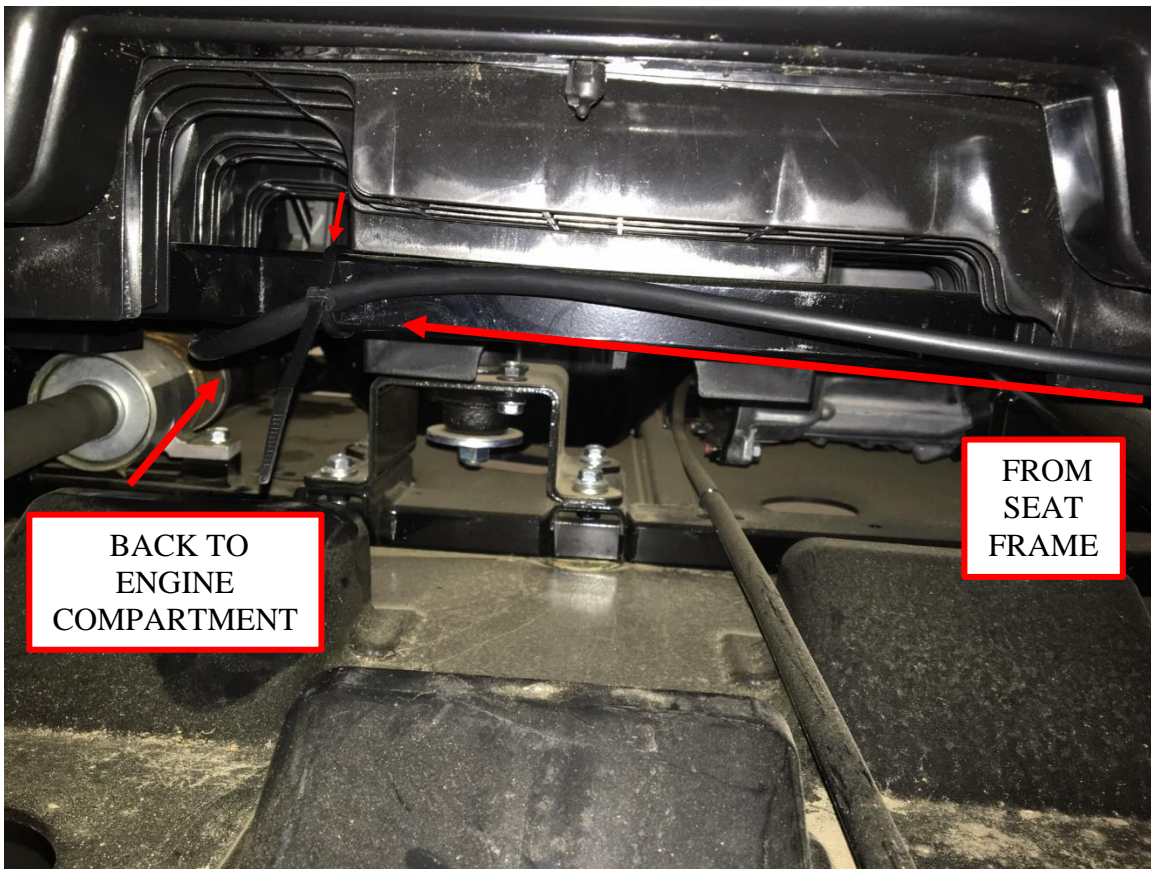

Figure 14: Secure the harness to the lower cross member.
11. Secure the harness to the lower cross member in the open space under the floor, behind the seat opening (next to the drive shaft). See Figure 14.